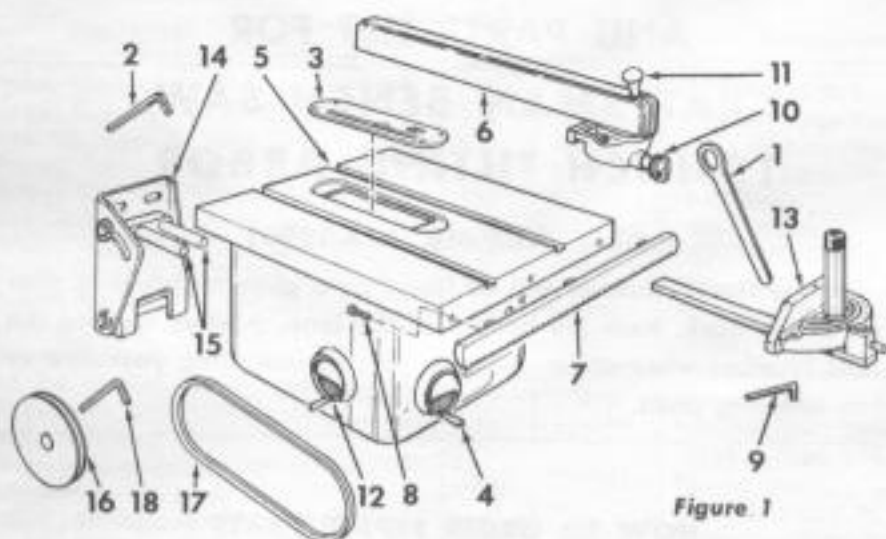
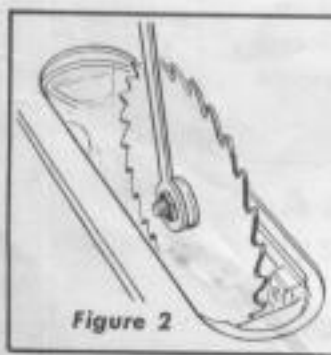
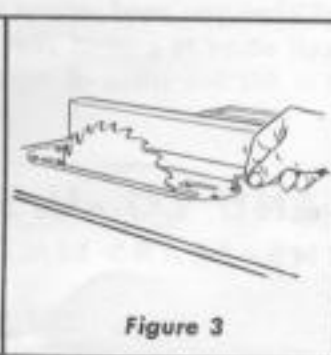
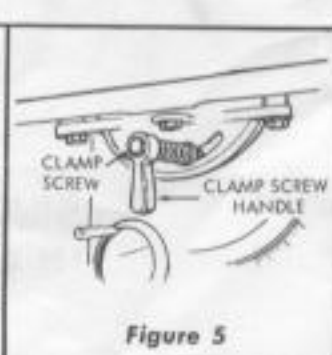

Figure 1
Figure 2
Figure 3
Figure 5
1. Remove the "loose" parts and clean them and the basic saw assembly thoroughly. (See figure 1.) Items having a rust-preventive coating, (saw table, etc.) can be cleaned with a cloth saturated with kerosene. Wipe other parts with a clean, dry cloth.
- a. Check tightness of saw arbor nut, using arbor wrench (1, figure 1) supplied with the saw. (See figure 2.)
- b. Adjust height of table insert (3, figure 1), until top surface is even with surface of table, if necessary, by rotating the four set screws in the table insert. Use Allen wrench (2, figure 1) to rotate set screws. (See figure 3.) Make sure that all four set screws are making contact with table by pressing the insert at each corner to see that it does not "wobble". After adjusting the insert, it may be necessary to bend the bottom of the insert clamp slightly in order to position the finger tang below the top surface of insert, and also retain sufficient spring tension to hold the insert securely in place.
d. Using the elevation handwheel (4, figure 1) position saw blade for deepest cut in preparation for aligning the saw blade with table grooves.
- (2) Measure the distance from this tooth to the right-hand table groove (5, figure 1).
- (3) Rotate blade by hand to locate this (marked) saw tooth just above table top at rear of blade, and again measure the distance from the saw tooth to right-hand table groove.
- (4) These two measurements must be exactly the same. If not, tighten the clamp screw with clamp screw handle. (See figure 5.)
- (6) Shift the two trunnions until the two measurements are equal and tighten trunnion screws. Recheck measurements to make sure tightening screws did not upset the setting.
e. Install the rip fence (6, figure 1) in accordance with the following routine:
- (1) Attach the rack (7, figure 1) to front edge of saw table with three screws (8). Position the rack with gear teeth facing downward and top edge of rack parallel with table top.
- (2) Pull out the rip fence knob (10, figure 1) to permit rip fence guide to slide over the rack (7). Then slide rip fence onto saw table.
- (3) Slide the fence along the rack while watching the clearance between lower edge of fence and table top. If any portion of the fence (except sliding pad at rear) drags on table top, or if clearance between fence and table top varies appreciably as the fence is moved, the rack must be re-adjusted. This is accomplished by loosening screws (8, figure 1) and re-positioning the rack until a consistent clearance exists over entire top surface of table.
- (1) Position the rip fence next to right-hand table groove (5, figure 1) and clamp it in place by pushing down the cam clamp lever (11). As the lever is pushed down to lock the fence, the fence should assume a position perfectly parallel to the table-top groove.
- (3) Install fence on saw table and lock it into position with clamp lever (11, figure 1). Move fence until perfectly parallel with groove and tighten the two front screws. (See figure 7 for screw locations.) Handle should be down, however, when screws are tightened.
- (4) Remove the fence and tighten the two rear screws. Install fence and recheck alignment.
- (1) Rotate elevation hand wheel (4, figure 1) to raise saw blade to deepest cut position.
- (2) Rotate tilt hand wheel (12, figure 1) clockwise until it will rotate no further.
- (3) With saw blade in position described above, tighten clamp screw with clamp handle to secure tilt mechanism. (See figure 5.)
- (5) If blade is not square with table, rotate the tilt hand wheel (12, figure 1) until pointer on tilt scale indicates approximately 10 degrees. Loosen two set screws in the stop collar located on the tilt screw nearest tilt hand wheel. (See figure 9.) Rotate stop collar on tilt screw clockwise (or counterclockwise) as required until the saw blade stops at precisely 90 degrees with table-top surface.
- (6) Tighten the two set screws in stop collar and rotate tilt hand wheel clockwise until it will turn no further and recheck the saw blade for squareness with table top. Several trial adjustments may be required before blade is square with table.
h. Check the miter gauge (13, figure 1) for accuracy. This gauge was set at the factory. During shipment, however, rough handling might have disturbed the setting. To assure maximum accuracy the "0" (zero) degree stop should be checked and adjusted (if required) as follows:
- Attach the motor selected for use to the motor base assembly (14, figure 1). Leave attaching bolts loose enough for motor to slide on motor base assembly.
- Mount the motor and base on the saw by sliding the two pins (15, figure 1) into mating holes at rear of saw cradle.
- Place pulley (16, figure 1) on motor shaft and align it with the pulley on saw arbor. Tighten motor attaching bolts and pulley set screw. Tighten the pulley set screw with the Allen wrench (18, figure 1).
- Install the V-belt (17, figure 1) on motor and saw pulleys.
- Adjust belt tension by moving motor support (14, figure 1) in or out of the cradle, as required. The motor should "hang" snugly against the belt (within the range provided) in order to utilize the automatic belt tightening feature. When adjustment is correct, secure it by tightening the two hex-head machine screws.